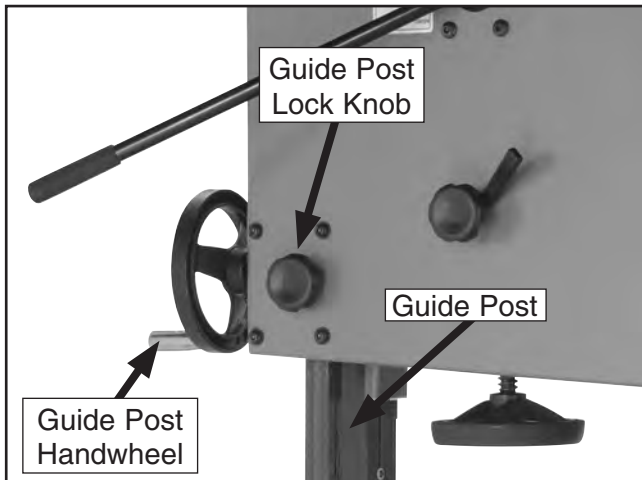

Figure 39. Guide post controls.
The guide post, shown in **Figure 39**, connects the upper blade guide assembly to the bandsaw. The guide post allows the blade guide assembly to move up or down via a rack and pinion. In order to cut accurately, the blade guide assembly must be no more than 1" from the top of the workpiece at all times—this positioning provides the best support for the blade.
2. Loosen guide post lock knob shown in **Figure 39**.